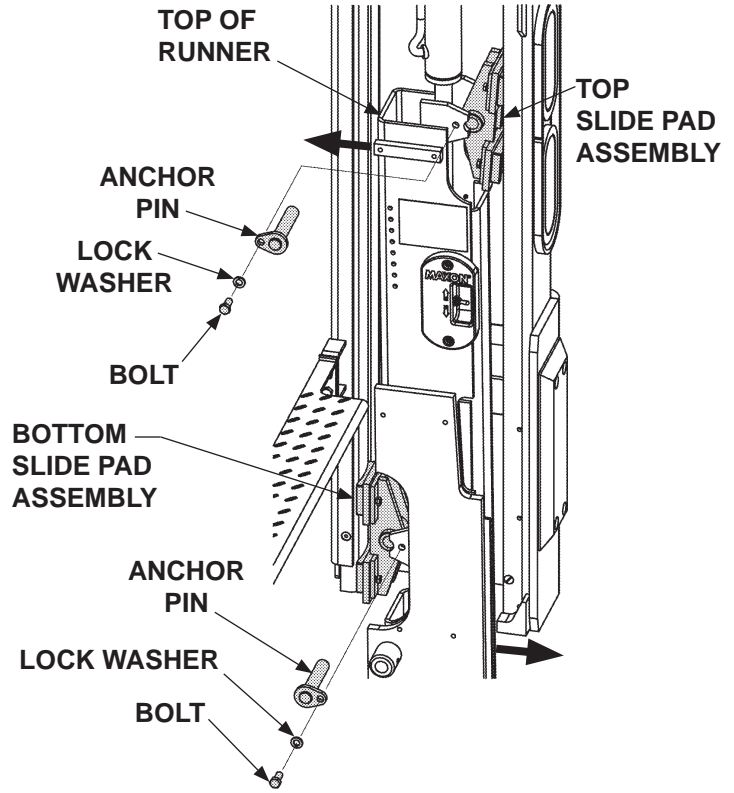

FIG. 37-1
30. If Liftgate is equipped with tandem slide pads, reinstall slide pad assembly at the bottom of runner as follows. Move bottom of runner away from vehicle body for enough clearance to insert slide pad assembly (**FIG. 37-1**). Insert slide pad assembly in correct position. Then bolt anchor pin to runner (**FIG. 37-1**).
31. To reinstall slide pad assembly at top of runner, do the following. Move top of runner toward vehicle body for enough clearance to insert slide pad assembly (**FIG. 37-1**). Insert slide pad assembly in correct position. Then bolt anchor pin to runner (**FIG. 37-1**).